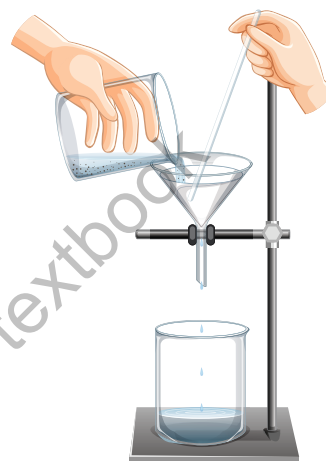

Figure 15.1 The process of filtration
1. Filtration by a glass funnel and filter paper is usually a slow process. As the mixture is poured onto the filter paper, the solvent (water) passes through leaving behind the suspended particles on the filter paper. Filter papers are available in a variety of porosities (pore sizes). Which pore size is to be used, depends upon the size of particles in the precipitate. The filter paper should be large enough so that it is one-fourth to one-half full of precipitate at the end of filtration. In this way, the filtrate runs down the side of beaker without splashing. A complete filtration assembly is shown in **Figure 15.1**.